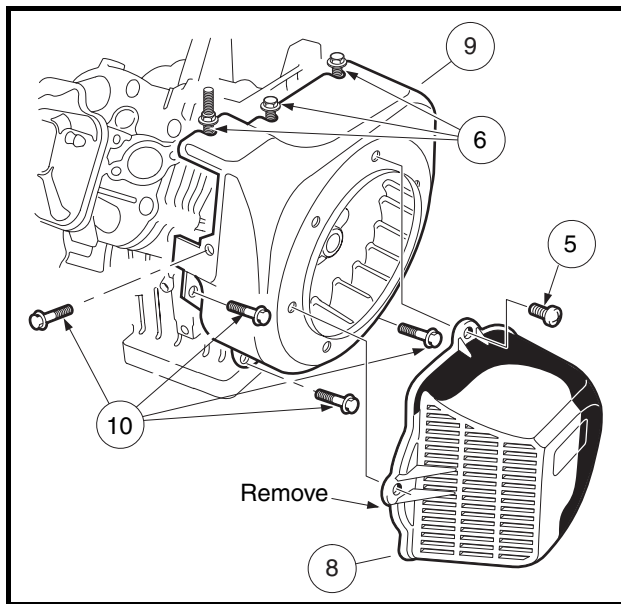
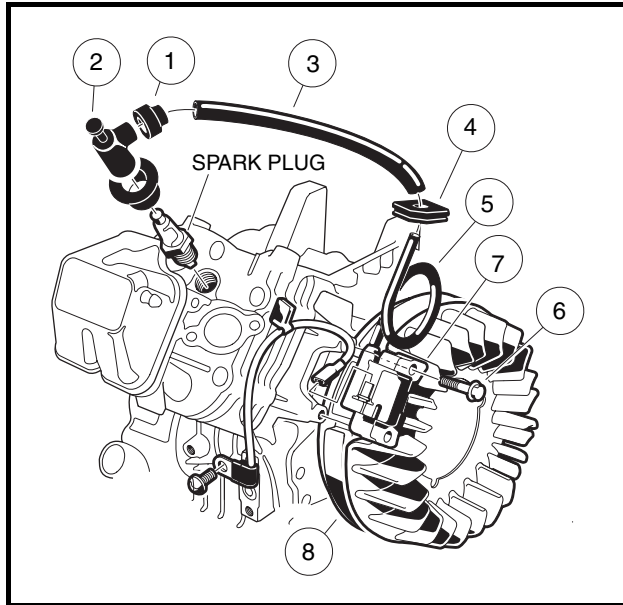

Figure 14-25 Fan Housing Removal
Figure 14-27 Clean Grommet
6. Remove the pan-head bolts (5) securing the fan shroud (8) to the fan housing (9) (**Figure 14-25, Page 14-24**).
7. Loosen, but do not remove, the three bolts (6) attaching the fan housing as shown.
8. Remove the remaining four bolts (10) attaching the fan housing as shown (**Figure 14-25, Page 14-24**), then while opening the housing, detach the spark plug wire grommet (4) from the housing (**Figure 14-27, Page 14-25**).
1. Remove the rubber gasket (1) on the plug cap (2) by rolling back the gasket onto the spark plug wire (**Figure 14-27, Page 14-25**).
2. Remove the cap (2) from the wire by turning the cap counterclockwise three or four revolutions while gently pulling it off the wire.
14. Install the four remaining flange bolts that secure the fan housing to the engine crankcase. Tighten all seven mounting bolts to 90 in-lb (10.2 N·m) (**Figure 14-25, Page 14-24**).
16. Install the fan shroud with four pan-head bolts (5). Tighten to 50 in-lb (5.7 N·m) (**Figure 14-25, Page 14-24**).